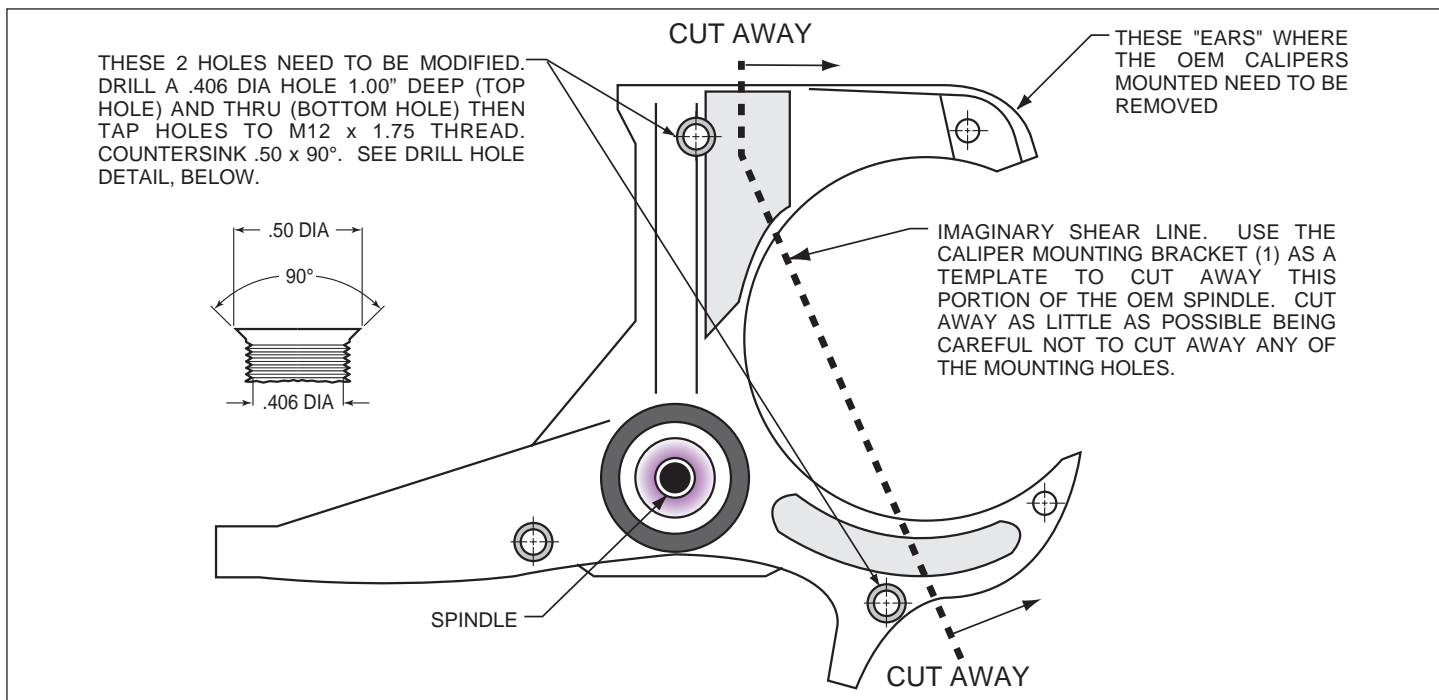
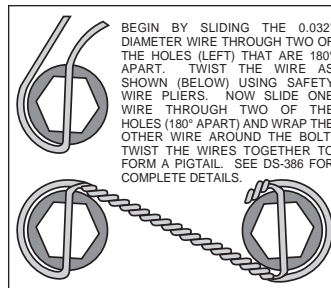

Figure 1. Steering Arm / Spindle Modifications
Figure 4. Safety Wire Diagram
NOTE: These modifications should be performed by a qualified machinist and completed before assembly of the Wilwood disc brake kit begins. Refer to Figure 1. Only one view of the steering arm/spindle is shown, but the modifications need to be performed on both steering arm/spindles.
The two OEM holes that will be used to mount the caliper mounting bracket (1) need to be modified. Drill a .406 diameter hole, 1.00" deep (top hole), and thru (bottom hole), Figure 1, then tap holes to M12 x 1.75 thread. Countersink the holes to .50 x 90°. The "ears" that protrude to form a "C" shape need to be removed to facilitate the installation of the Wilwood kit. Using the bracket as a template, mark two cut marks on the steering arm. Remove as little as necessary from the "C" shape, being careful not to cut away any of the mounting holes required to bolt on the bracket.
- Orient the rotor (9) and the hat (10) as shown in Figure 1 and Photo 4. Attach rotor to hat using bolts (11) and washers (12). Using an alternating sequence, apply red *Loctite*® 271 to the threads and torque bolts to 155 **in-lb**. For an added measure of security, the bolts may be safety wired using standard 0.032 inch diameter stainless steel safety wire as shown in Figure 4. Refer to Wilwood's data sheet DS-386 (available at www.wilwood.com/Pdf/DataSheets/ds386.pdf) for complete safety wire installation instructions.
- Pack the small outer bearing cone (13) with high temperature disc brake bearing grease and install into hub (6). Slide the hub assembly onto the spindle. Secure using spindle washer (14) and OEM spindle nut, Photo 5. Adjust bearings per OEM specifications. Install saved OEM nut lock (if any) and a new cotter pin (not included).
- NOTE:** This kit contains distinct right and left hand calipers that must be mounted in a specific direction, as described below. Lubricate the caliper mounting studs (21) with lightweight oil. Initially place one spacer (23) and two .035" thick shims (22) on each stud between the caliper and the bracket, as shown in Figure 1 and Photo 7. Mount the caliper (18) onto the bracket (1) using lock nuts (19) and washers (20), Figure 1. Ensure that the caliper is mounted so the largest pistons are at the rotor exit end of the caliper, in relation to the direction of rotor rotation. Temporarily tighten the lock nuts and view the rotor through the top opening of the caliper. The rotor should be centered in the caliper, Photo 8. If not, adjust by adding or subtracting shims (4) between the bracket and the upright. Always use the same amount of shims on each of the two mounting bolts. Once the caliper alignment is correct, remove the bracket mounting bolts one at a time, apply red *Loctite*® 271 to the threads, and torque to 60 ft-lb.